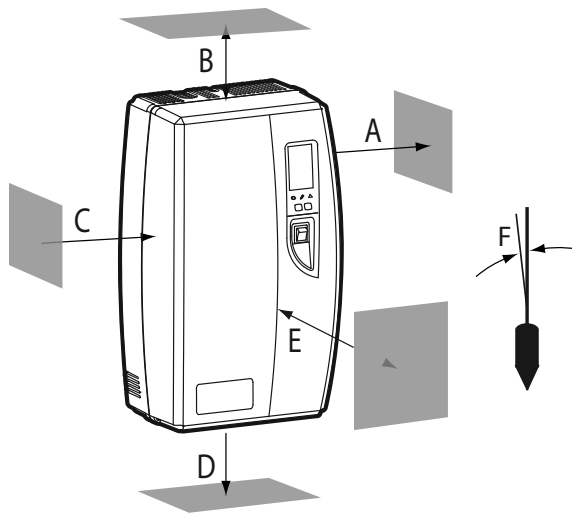

Fig. 3.a
**IMPORTANT:** Certain minimum clearances must be maintained around the unit for safety and maintenance. (See Fig. 3.a. and Table 3.a)